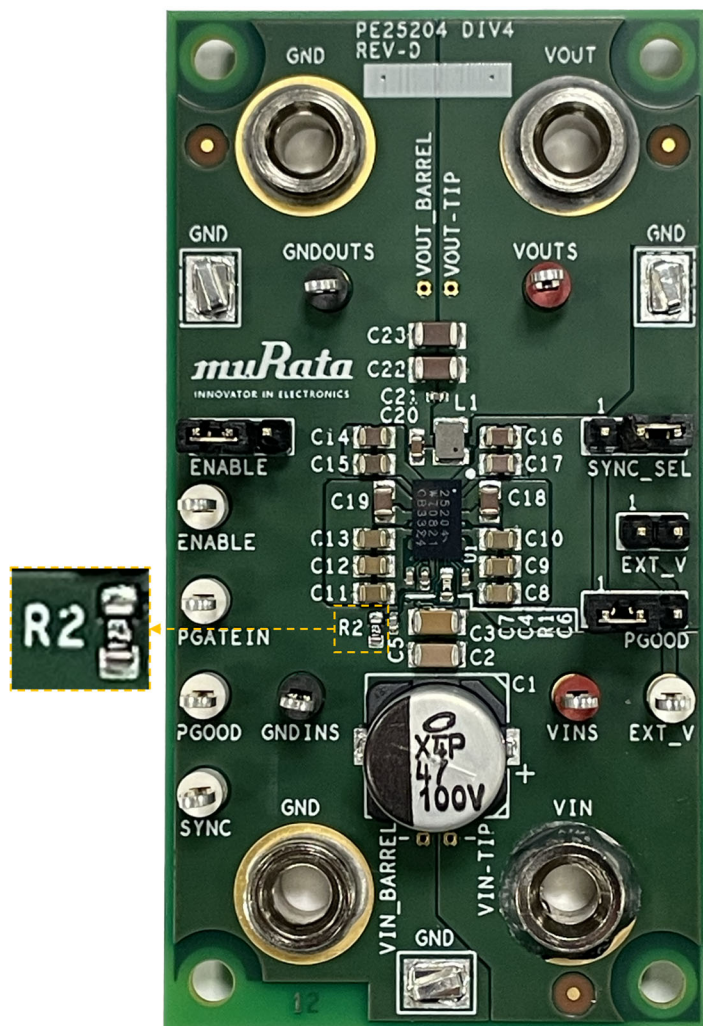

Figure 6. Recommended Jumper Positions
1. Before you power up the EVK, configure the ENABLE, SYNC_SEL, and PGOOD selectors by fitting the jumpers in the recommended position shown in Figure 6 and listed in Table 3.